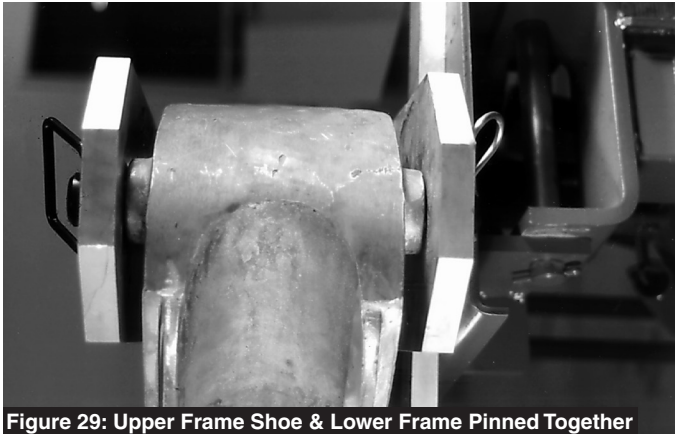

Figure 29: Upper Frame Shoe & Lower Frame Pinned Together
- Insert the bend shoe pin (BZ78) through the upper frame, bend shoe and lower frame. Insert the retaining pin into the hole at the bottom of the bend shoe pin. Figure 29.